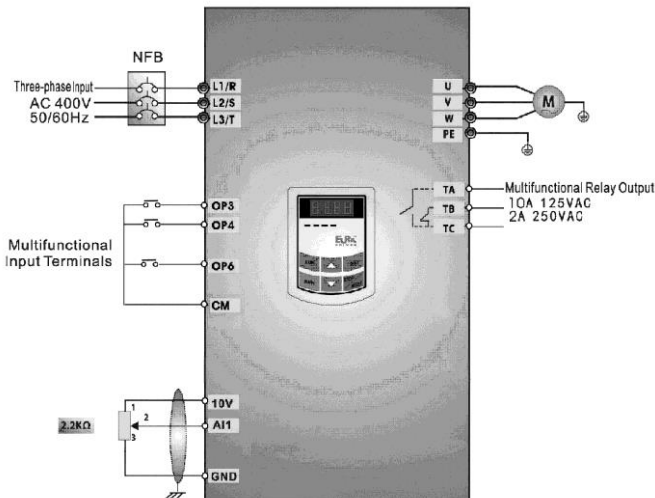

Figure 5-3 Wiring Diagram 3
- (1) Connect the wires in accordance with Figure 5-3. After having checked the wiring successfully, switch on the air switch, and power on the inverter. Note: 2K~5K potentiometer may be adopted for setting external analog signals. For the cases with higher requirements for precision, please adopt precise multitur potentiometer, and adopt shielded wire for the wire connection, with near end of the shielding layer grounded reliably.